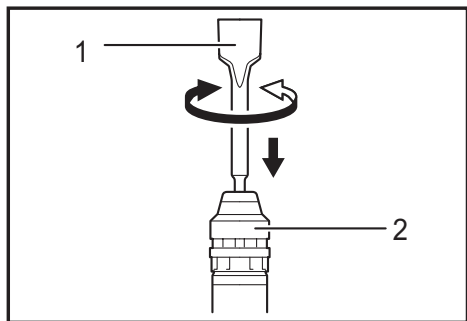

Fig.3
► Fig.3: 1. Bit 2. Chuck cover